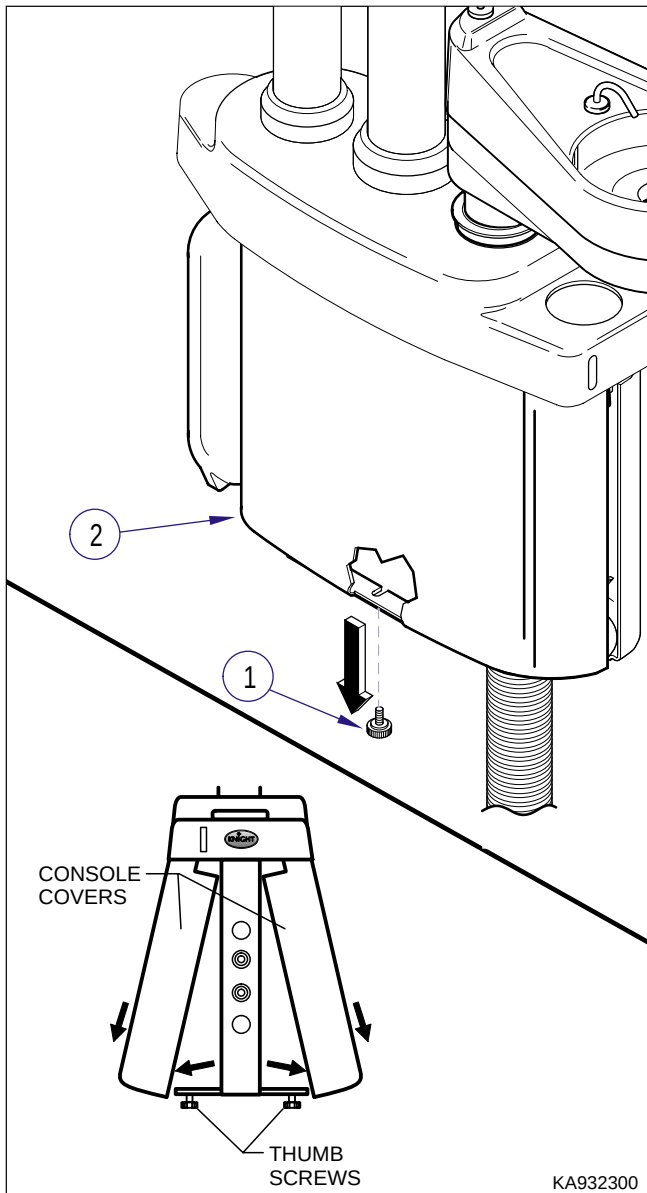

Figure 4-11. Console Cover Removal
- (1) Disable unit for repair. (Refer to para 4.1).
- (2) Loosen thumbscrew (1, Figure 4-11); then remove console cover (2) by pulling bottom of cover out and down (as shown).